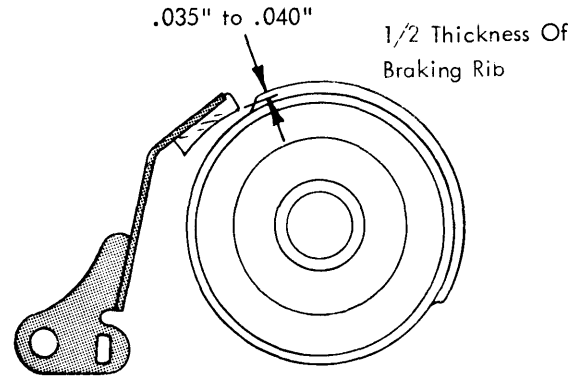

FIGURE 24. Shift Cam Brake Adjustment
4. Shift Cam Brake - The shift cam brake should be adjusted to have .035" to .040" bite on the braking rib of the cam (Fig. 24). That is approximately 1/2 the thickness of the rib.